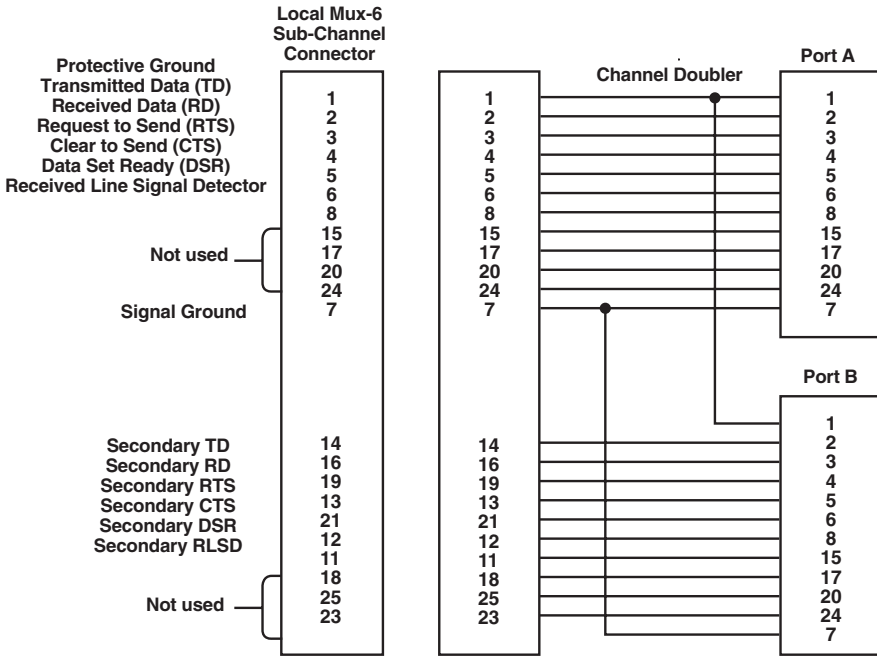
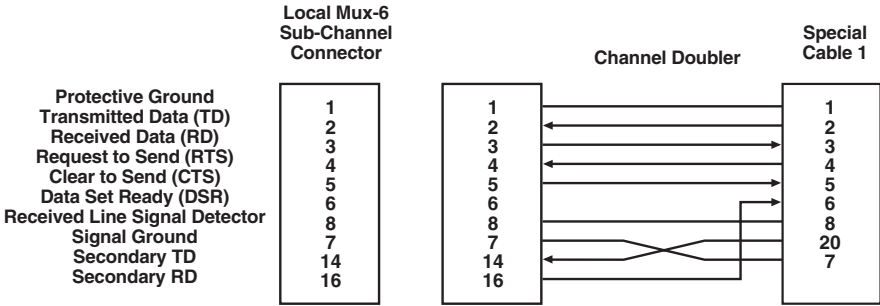
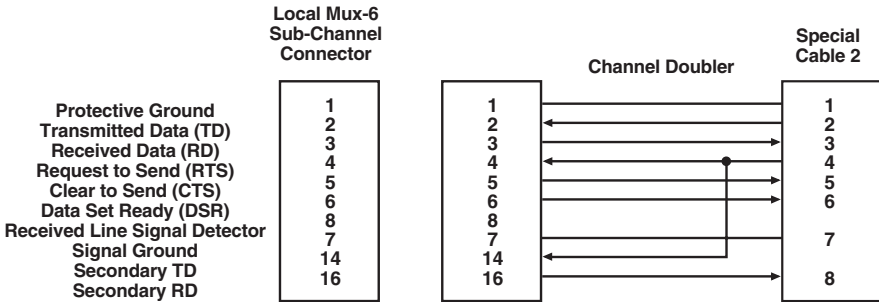

Figure 3-4. Connecting Channel Doubler to Local Mux-6 Sub-Channel.
Figure 3-5. DTR to DSR End-to-End Control Signal.
Figure 3-6. RTS to DCD End-to-End Control Signal.
Six D-type 25-pin female connectors on the rear panel enable connection to the unit. Detailed information about the signals present at these connectors is given in **Table 3-1**. For twelve-channel operation, channel doublers (CD) are required. Refer to **Figure 3-4** for the pinout of the CD. For six-channel operation, with full duplex data and end-to-end control signals on each channel, refer to **Figure 3-5** (DTR to DSR control signal) or to **Figure 3-6** (RTS to DCD control signal).